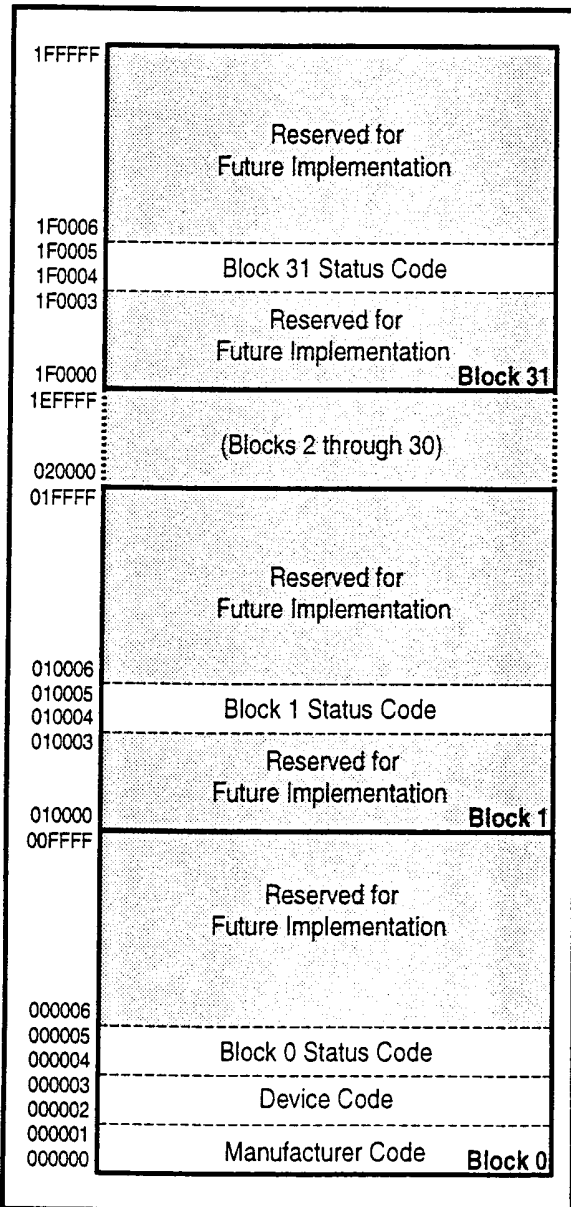

Figure 8. Device Identifier Code Memory Map
The read identifier codes operation outputs the manufacturer code, device code, block status codes for each block (see Figure 8). Using the manufacturer and device codes, the system CPU can automatically match the device with its proper algorithms. The block status codes identify locked or unlocked block setting and erase completed or erase uncompleted condition.
IA=Identifier Code Address: see Figure 8.
The identifier code operation is initiated by writing the Read Identifier Codes command. Following the command write, read cycles from addresses shown in Figure 8 retrieve the manufacturer, device, block lock configuration and block erase status (see Table 5 for identifier code values). To terminate the operation, write another valid command. Like the Read Array command, the Read Identifier Codes command functions independently of the V_{PP} voltage and RP# must be V_{IH} . Following the Read Identifier Codes command, the following information can be read:
1. X selects the specific block status code to be read. See Figure 8 for the device identifier code memory map.